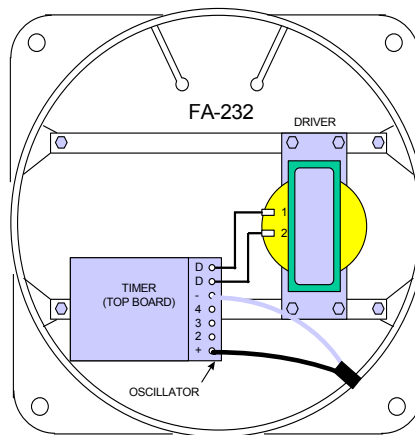

Figure 3-44
- g. Install spade lugs on each wire and install on the “+” and “-” terminals on the oscillator board, as shown in Figure 3-44. The oscillator board is located on the access plate on the SA-850 emitter. Wiring is similar.